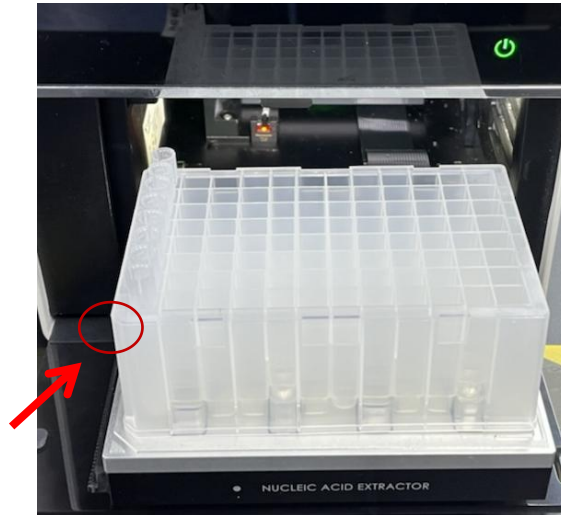

Figure 2. 96-deep well plate
**⚠ Note:** The user should ensure that the 96-deep well plate should be placed with its notch at the upper left corner, as shown in Figure 2.